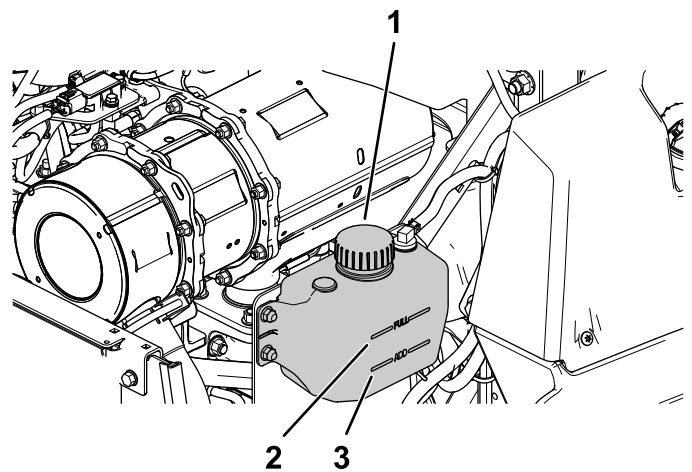

Figure 57
4. Check the level of the coolant in the expansion tank (Figure 57).
5. If coolant level is low, remove the expansion-tank cap, and add the specified coolant (Figure 57).